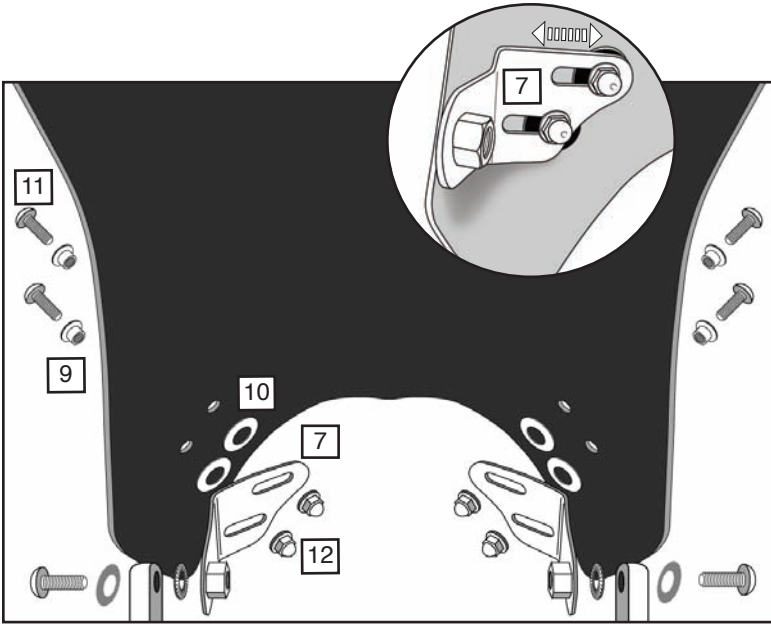

Figure 1
1. Install 1, Washer (10) over each hole on the inside surface of the Screen. **Figure 1**
2. Select the Left Bracket (7) and install to the Left, inside surface of the windscreen using 2, Collars (9), 2, Screws (11) and 2, Cap Nuts (12). **(4mm Hex Wrench and 10mm Socket) Figure 1.**
10. Securely tighten the 4 Screws (11) and Cap Nuts (12) in the Windshield Brackets **(4mm Hex Wrench and 10mm Socket) Figure 1**